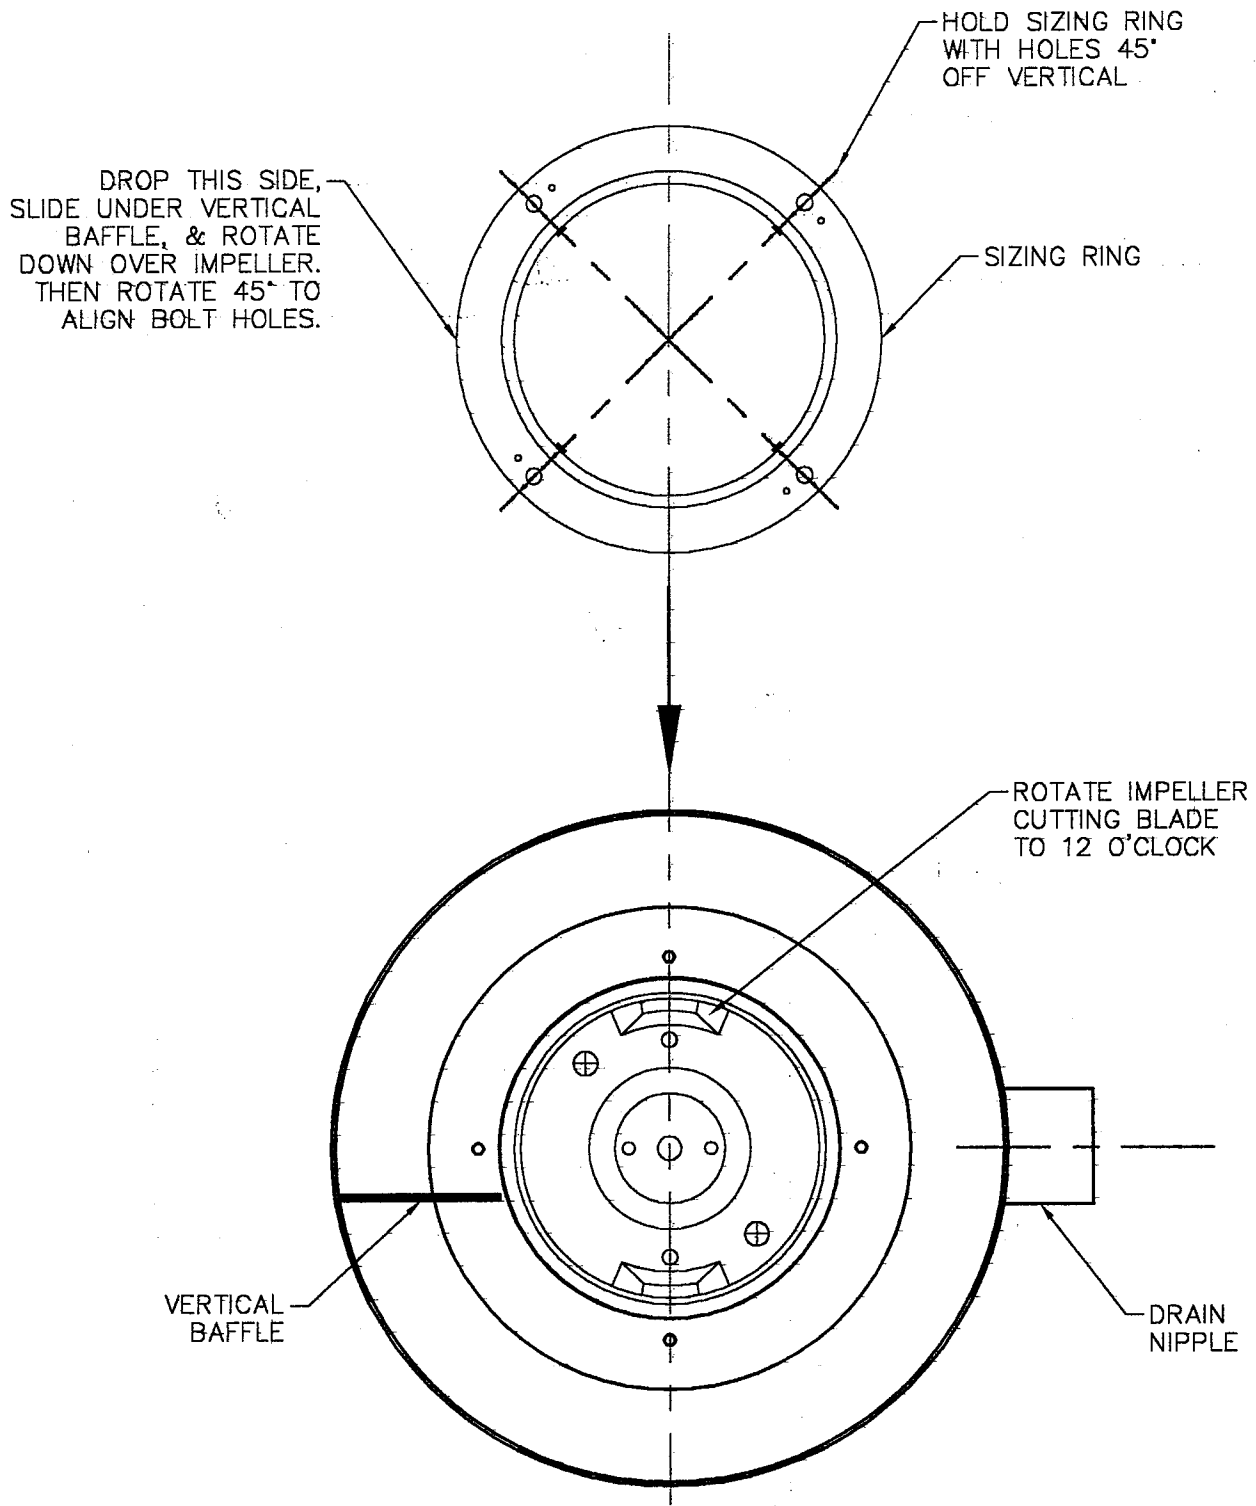

FIGURE 6-6
1. Lower new sizing ring into position in pulper tank. Position and install using Fig. 6-6 as a guide.